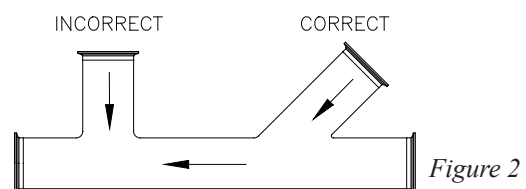

Figure 2
- Avoid abrupt transitions in the piping system (*Figure 2*).